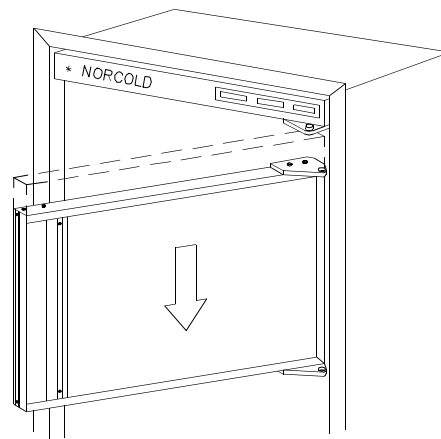

Figure 13
3. Remove the upper door by opening the door slightly and pulling the bottom of the door away from the refrigerator. Allow enough room to slide the door down off of the upper hinge pin shoulder. (See Figure 13)